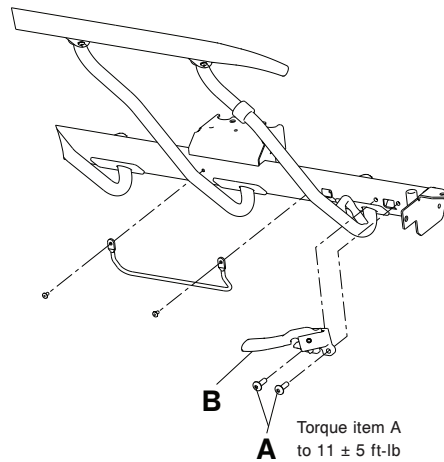

Figure 24 – Siderail latch replacement
- Using a T40 Torx driver, remove the two truss head machine screws (A) that secure the siderail latch (B) to the litter frame (Figure 24). Discard the truss head machine screws. Remove and discard the siderail latch.